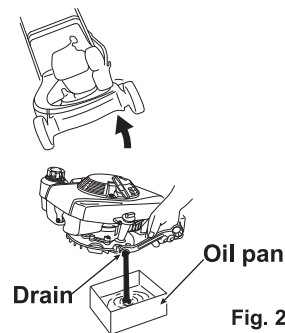

Fig. 28
- Remove the oil tank cap. (See Section 8.1.1) (See Fig. 28)